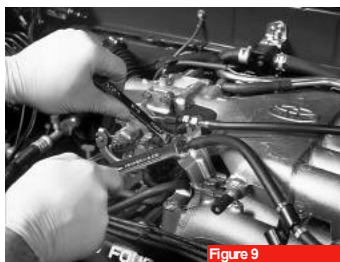

Figure 9
12. Loosen but don't remove the cable nuts (figure 9). Slide the cables from their brackets and remove the cable ends from the throttle-body levers.